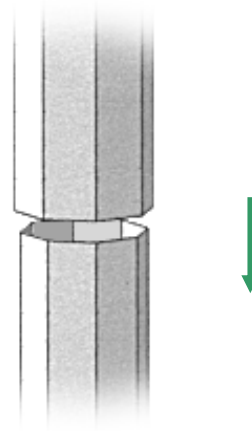

Fig 4
5) On some columns (particularly base plate mounted) where outreaches are fitted it will be necessary to fit the correct outreach with its corresponding column. These outreaches will have a number welded to it that will match a number on the column (usually behind the door). Doing this will ensure that the outreach sits square to the base plate and therefore 90 degrees to the road. (See fig 4)